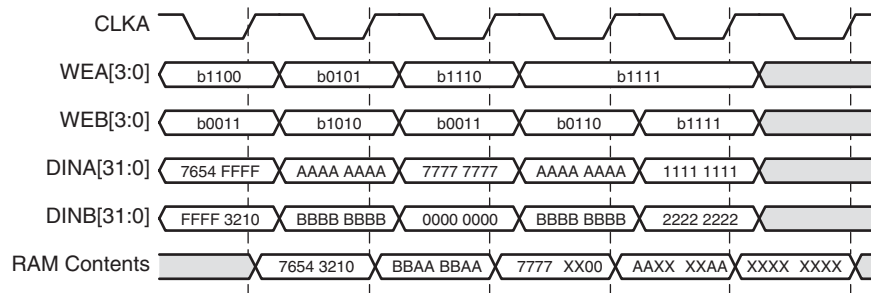

Figure 15: Write-write Collision Example
- **Using Byte-Writes.** When using byte-writes, memory contents are not corrupted when separate bytes are written in the same data word. RAM contents are corrupted only when both ports attempt to write the same byte. Figure 15 illustrates this case. Assume ADDRA = ADDR B = 0.